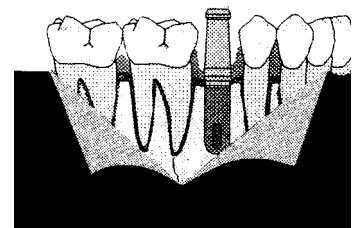

Fig 4
4. A two-piece impression coping is used to record the position of the implant and the orientation of the external hex. The coping is completely seated on the external hex and held in place with the impression screw (Fig. 4). There are flat sides on the coping for orientation purposes. A confirming x-ray is necessary at this point to determine complete seating of the impression coping on the implant. An impression may then be made with the crown and bridge impression material of choice.